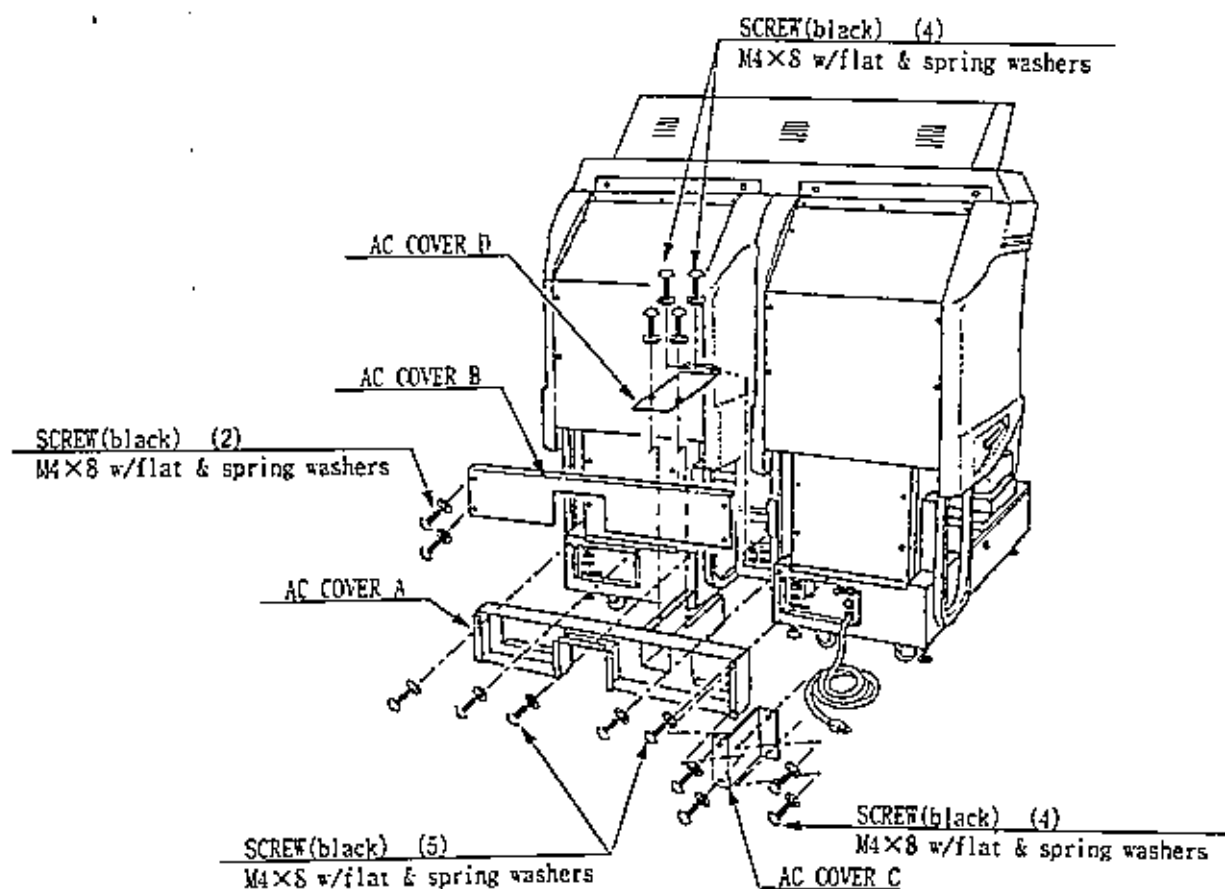

FIG. 6.9
- ① Attach AC COVER A to the back of the cabinet (Fig. 6.9) by securing with 5 screws.
- ② Make wiring connections between both cabinets & the coin chute tower. Insert the supplied wiring connectors to the corresponding ones which have an identical color and the same number of pins.